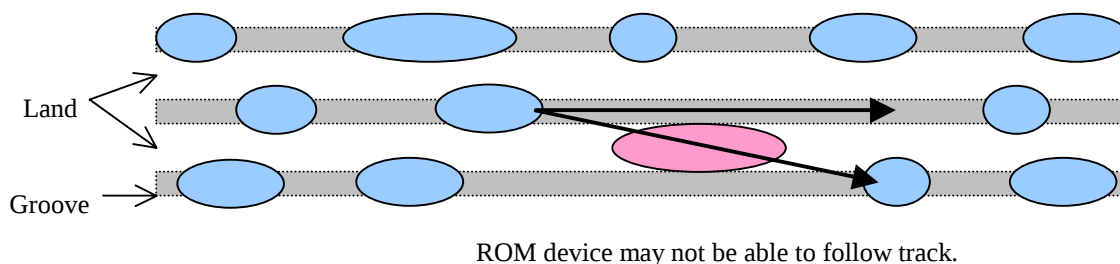

figure 2 - example of RW media characteristics
In case of RW media that does not have pre-pit address mark on recording track, de-track writing or wrong track writing may not be detected immediately. Spot or scratch may cause de-track/cross-track writing. Sometime this may cause unrecoverable problem on the medium. Therefore using another Write(12) command with streaming=1 for retry is not appropriate. Refer to figure 2 - example of RW media characteristics.